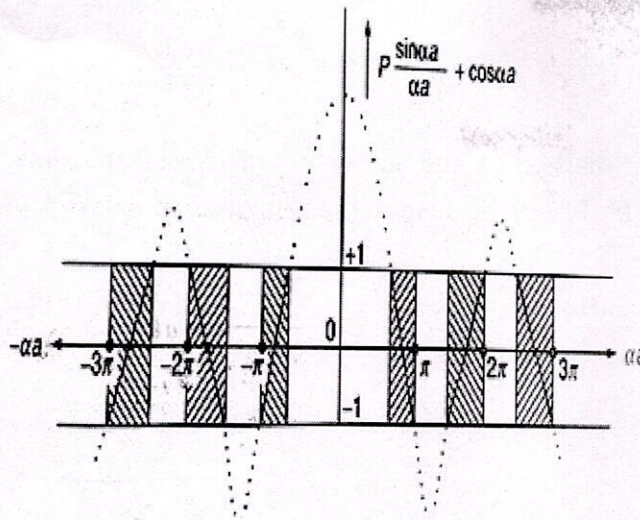

Fig.1
- (i). The energy spectrum has a number of allowed energy and forbidden energy bands, as shown fig. 1.
In conductors, the forbidden energy gap is zero ($E_g = 0$) i.e., both valence band & conduction band overlap with each other as shown in Fig.1.